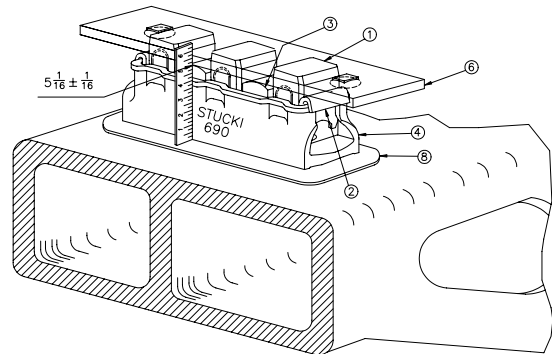

Figure 3. Set-Up Height Measurement
Vertical space between the car body side bearing wear plate ⑥ (or wedge) and the truck bolster surface to which the side bearing cage is mounted must be 5-1/16" ± 1/16", measured as illustrated in Figure 3.
The 690 side bearing cage ④ (see Figure 3) must be free of flaws or cracks and must be securely fastened to the truck bolster. Please refer to A Stucki Company's roller side bearing installation instructions for cage fastener recommendations.